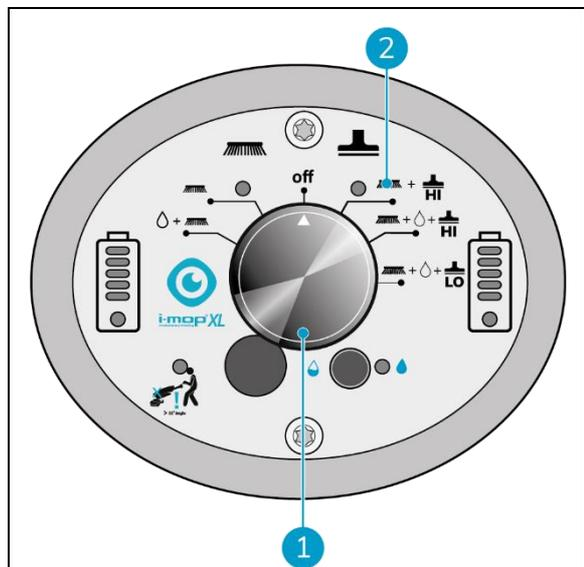

Figura 26
1. Utilizar o interruptor principal da i-mop XXL Pro (Figura 26, pos. 1) e seleccione MODE 3 Brush + Dry vacuum (Figura 26, pos. 2).